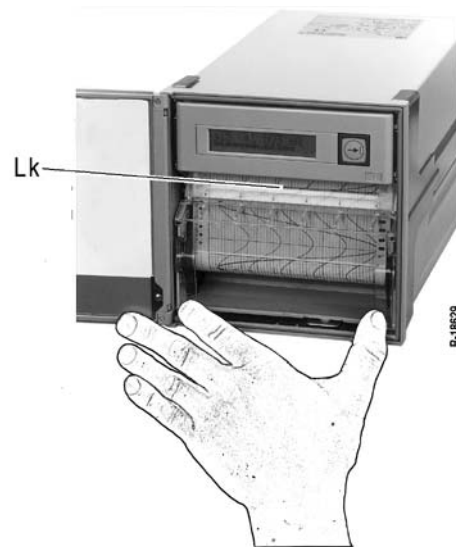

Figure 10 Positioning the recording chart
1.8 Positioning the recording chart (see Figure 10)